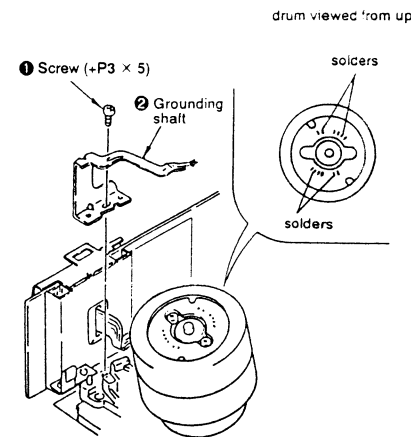

Fig. 4.
- 1) Remove the screw **1** (+P3 × 5) and take out the grounding shaft **2**. (See Fig. 4.)